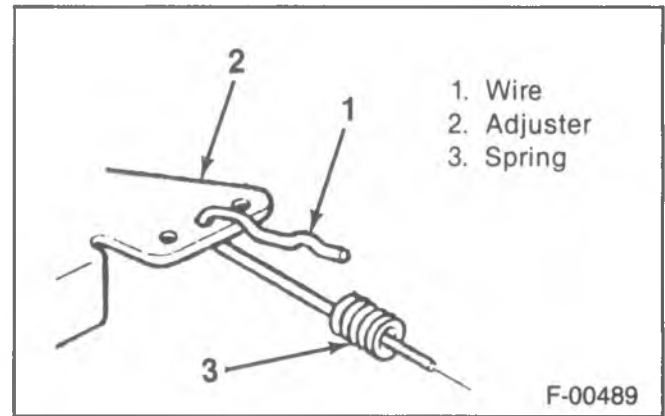

Figure 1—Adjustment Points
- 3. Wire assembly tension. Three holes on the secondary adjuster rail allow for tension adjustment of the wire assembly (figure 1).